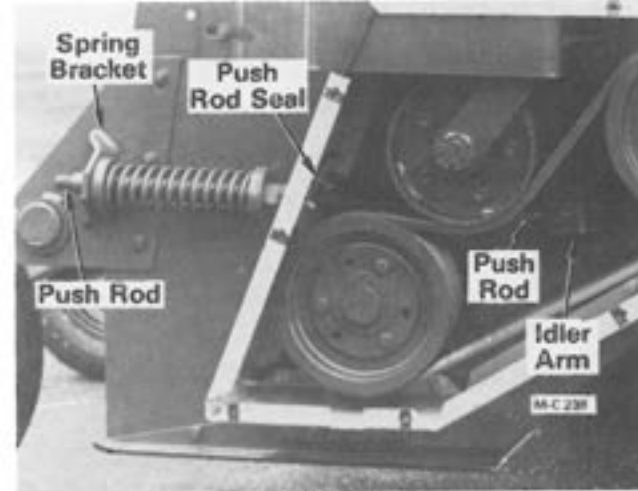

Figure 30
4. Remove the idler push rod seal, see Figure 30. Disconnect the idler push rod at the idler arm.
9. Install the new drive belts. Install the idler push rod and spring assembly into the idler spring bracket, see Figure 30.